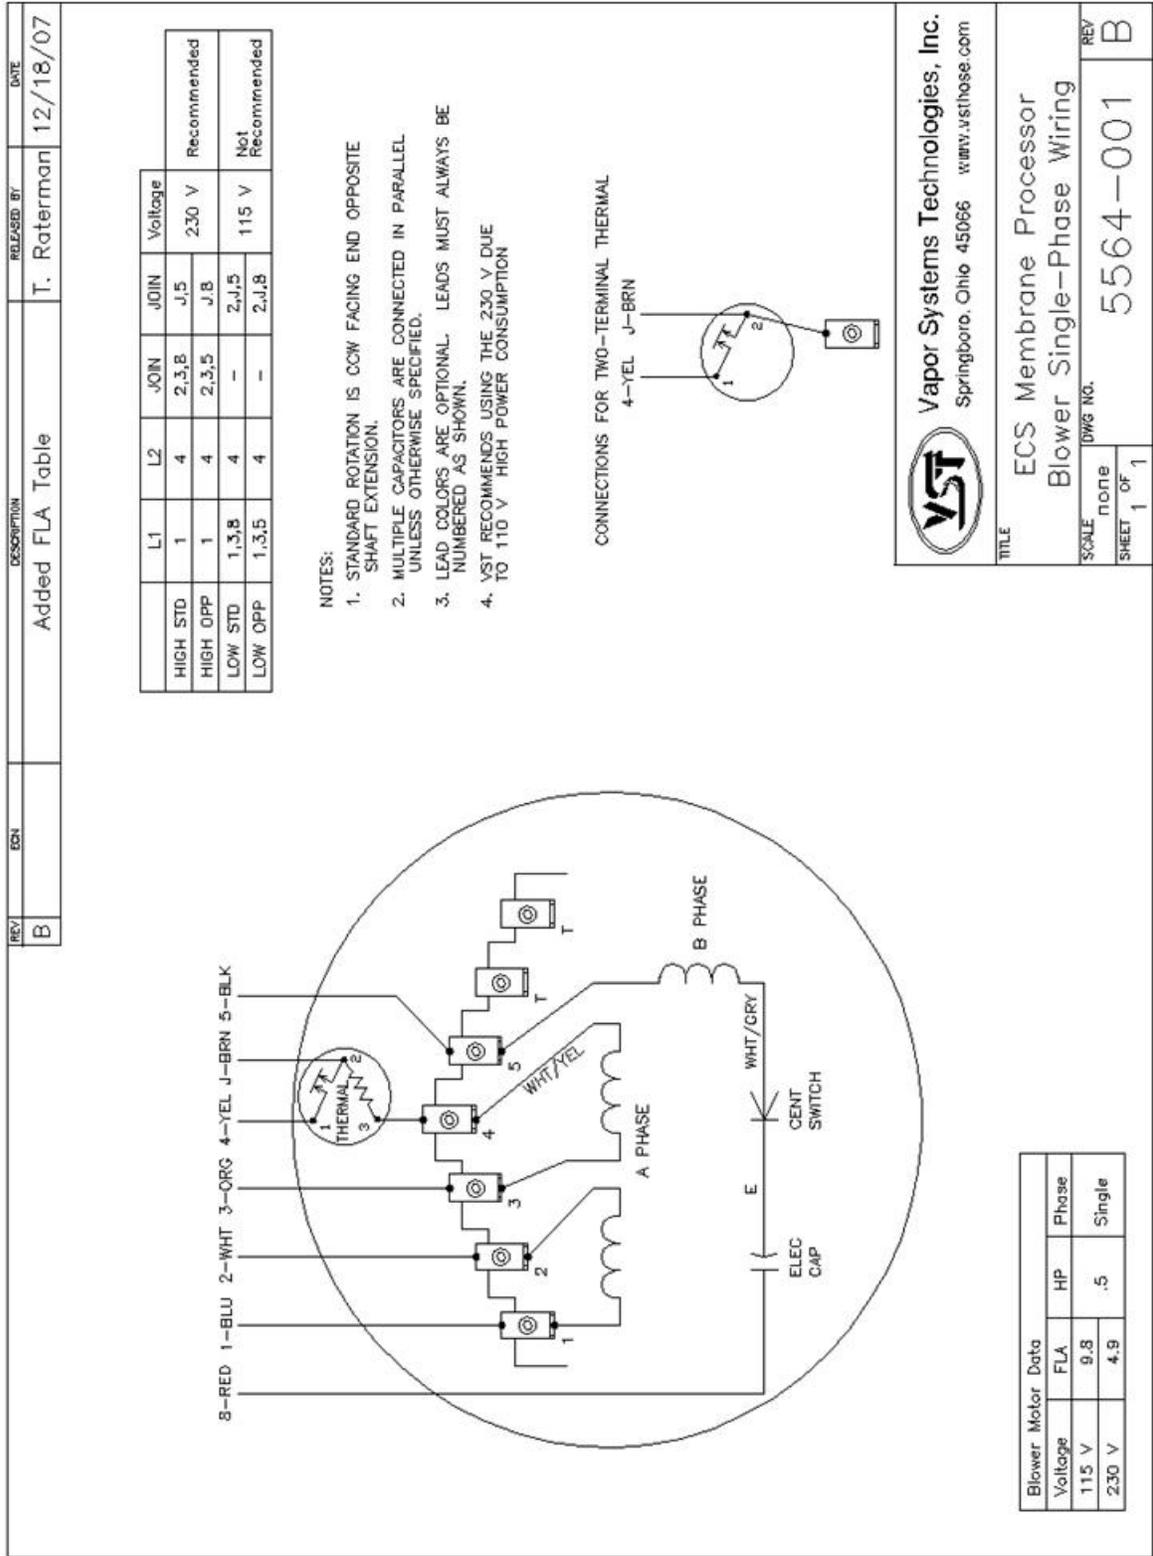
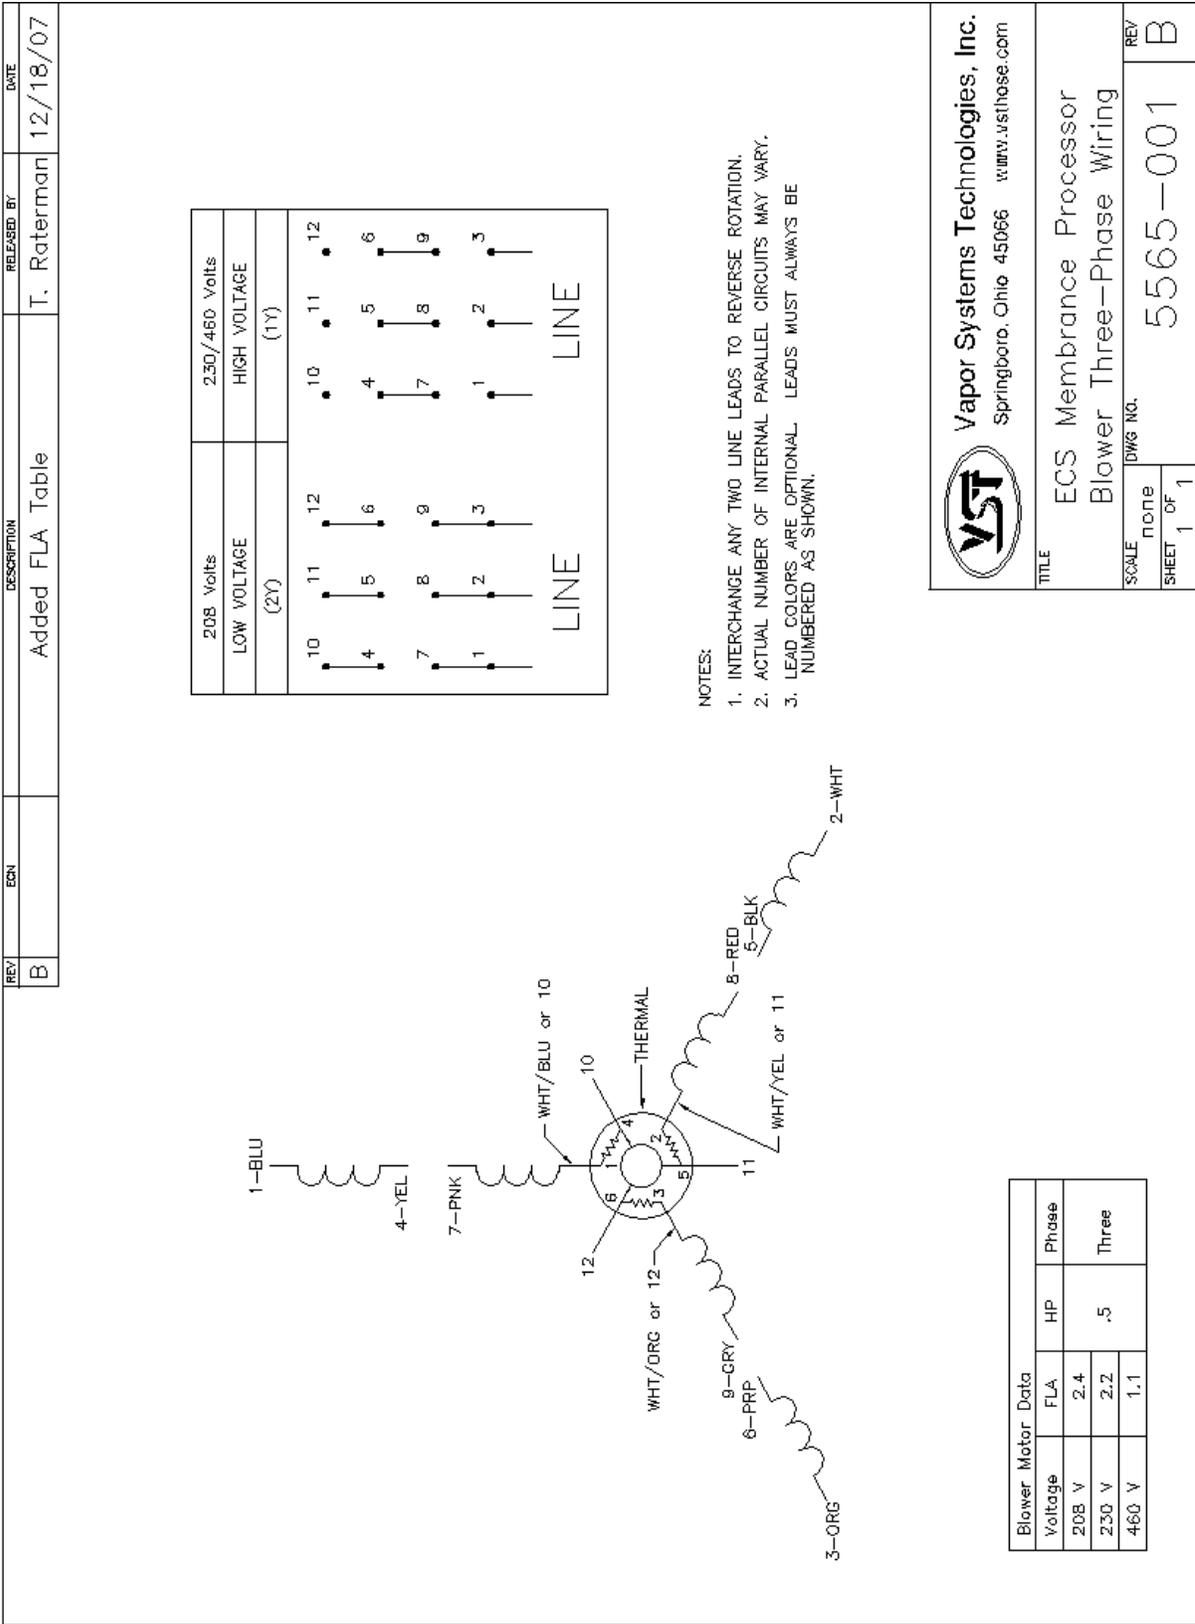

Figure 16: Blower: Single-Phase Motor Wiring Diagram
Figure 17: Blower: Three-Phase Motor Wiring Diagram
- ▶ See Figure 16: Page 15-45 and Figure 17: Page 15-46.